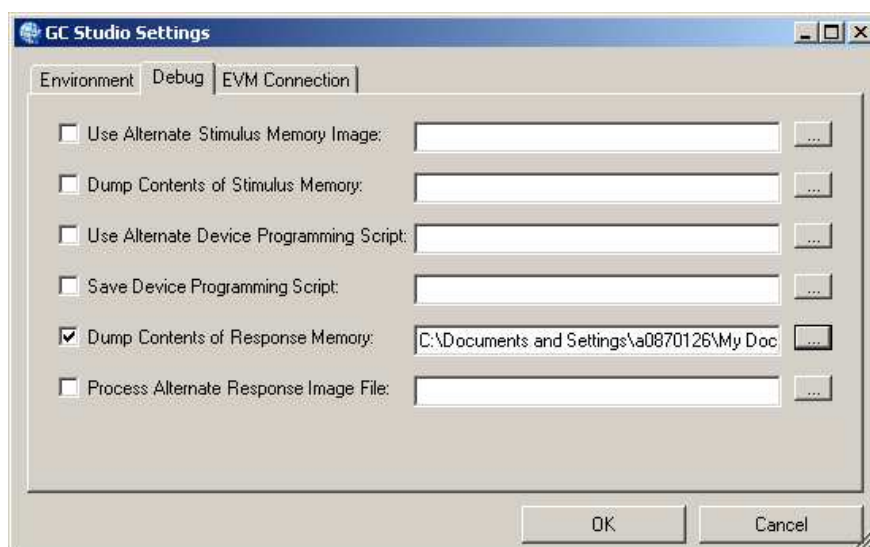

**Figure 23. CDMA – Stop Experiment and Save Project**
39. On the GC Studio panel, click on the stop button, shown circled in Figure 23, to stop the experiment, then select File -> Save Project to save this project.